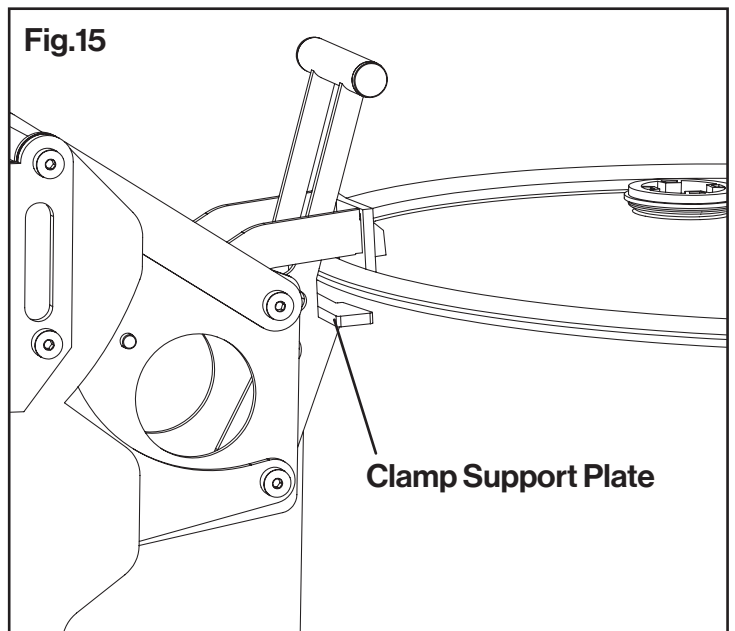

Fig.15
3. Ensure the clamp support plate rests below the drum edge. **(Fig. 15)**